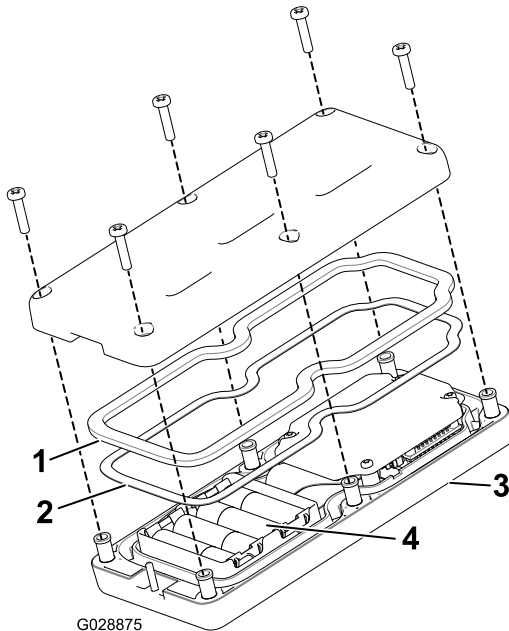

Figure 18
2. Install the batteries into the terminal cradle observing proper polarity. The cradle is embossed with polarity markings for each terminal (Figure 18).
4. Secure the cover with 6 screws (Figure 18) and torque them to 1.5 to 1.7 N·m (13 to 15 in-lb).
3. Ensure that the steel gasket and rubber seal are seated in the channel in the handheld remote and set the back cover in place (Figure 18).